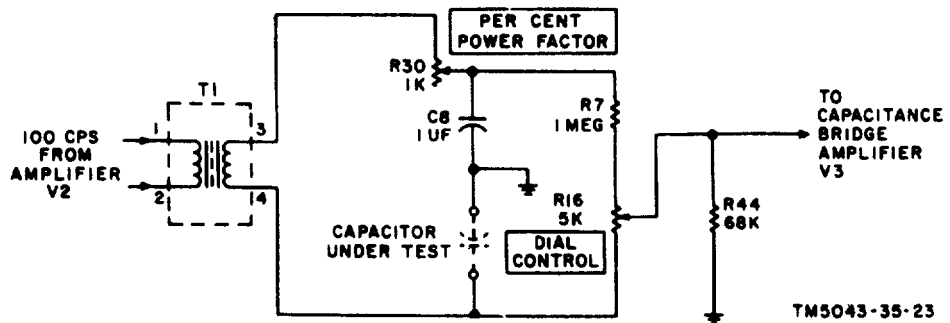

Figure 8. Capacitance bridge, 25 to 1000 MF range, simplified schematic diagram.
(4) 25 to 1000 MF range (fig. 8).
- (b) The action of this bridge is similar to the action discussed in (3) (b) above, except that resistor R46 has been added to the right leg to increase the range of the circuit.